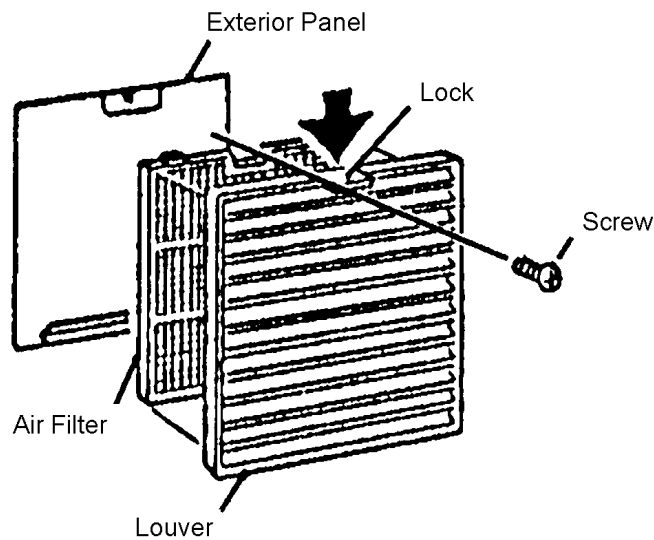

Fig. 17
3) Air Filter (Air-cooled model only) - See Fig. 17.